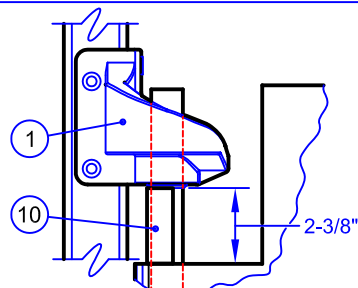

Figure 6
SLIDE THE PROPER (LEFT OR RIGHT) V-CAM ① ONTO THE UPPER HINGE POST AND ALLOW IT TO REST ON THE 2 3/8" LONG 1/2 PVC PIPE V-CAM SHIM ⑩, SEE FIGURE 6 - PAGE 2.